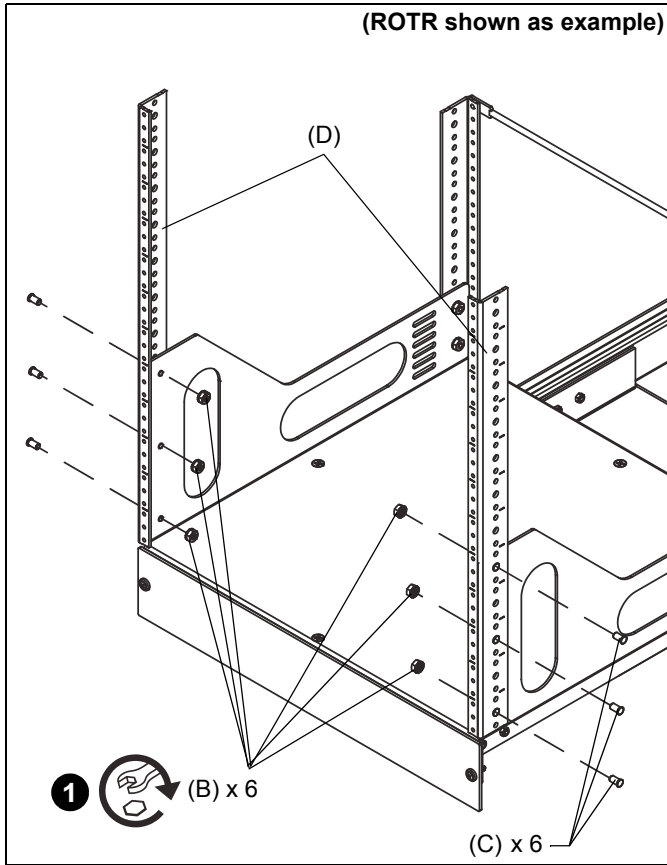

Figure 1
1. Attach rack rails (D) to POTR/ROTR using three 1/4-20 x 1/2" perm studs (C) and three 1/4-20 lock nuts (B) for each rack rail. (See Figure 1)